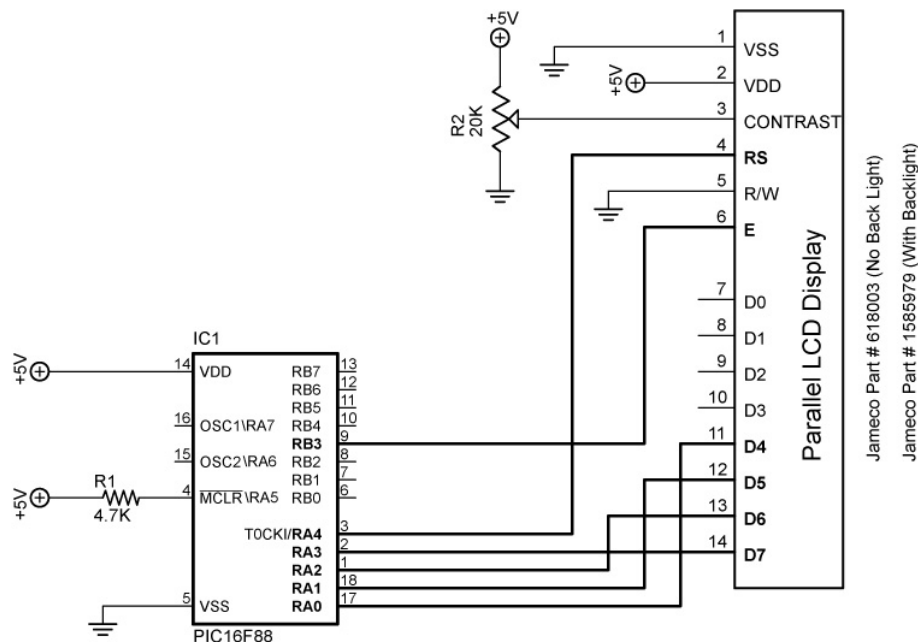

Figure 2, LCD Default Connections
- PicBasic Pro permits changing of LCD pin connections by using DEFINE statements. The LCD default pin connections are shown in Figure 2: